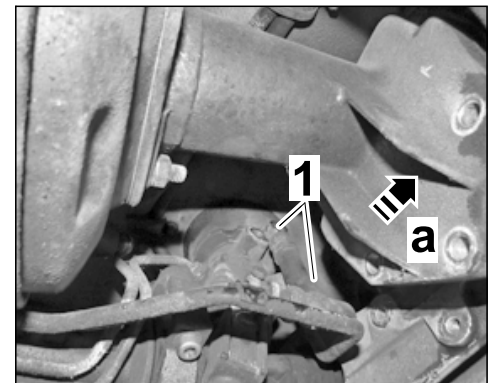

Figure 11
3.2.3 Move the mounting saddle ⇒ *Figure 11-a-* so that the banjo bolts ⇒ *Figure 11-1-* on the steering gear are accessible.